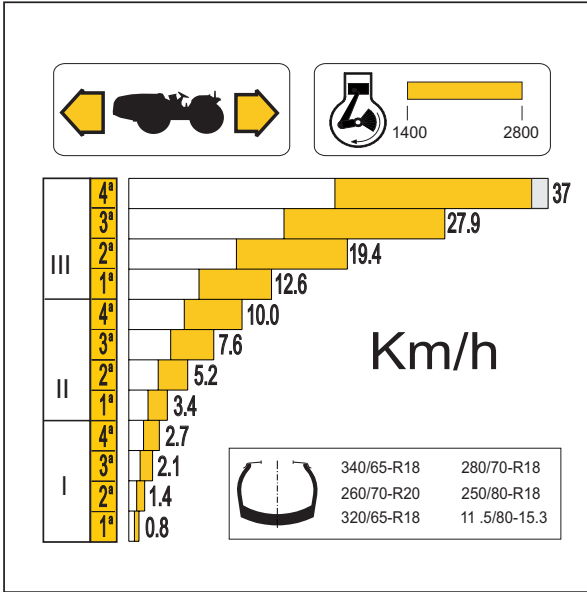
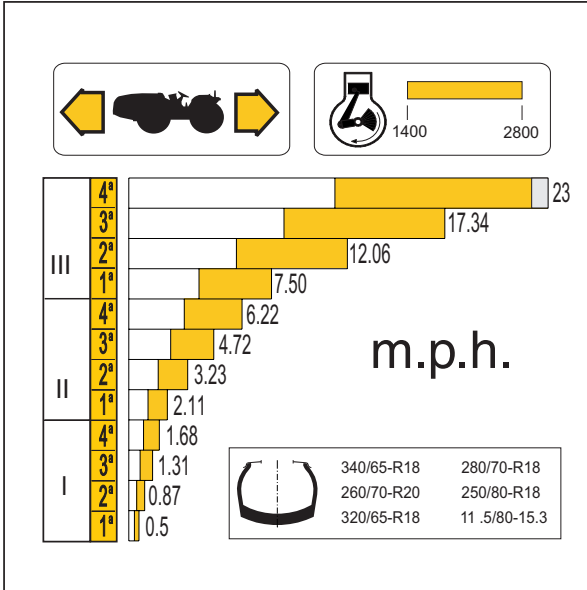

Fig. 5.20
Fig. 5.21
The decal (123) just under the steering wheel on the right indicates the perfect progressions of the gears without speed overlapping both in forward and reverse, with the indicated tires and engine rpm (Fig. 5.20 and Fig. 5.21).